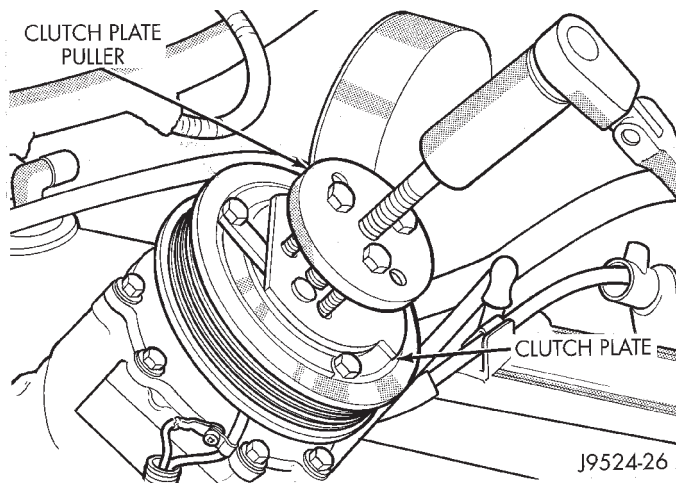

Fig. 20 Clutch Plate Remove
- (7) Remove the clutch plate with a puller (Special Tool C-6461) (Fig. 20).